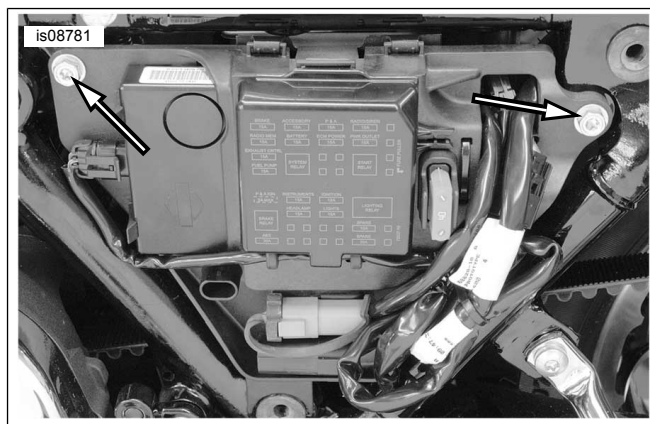
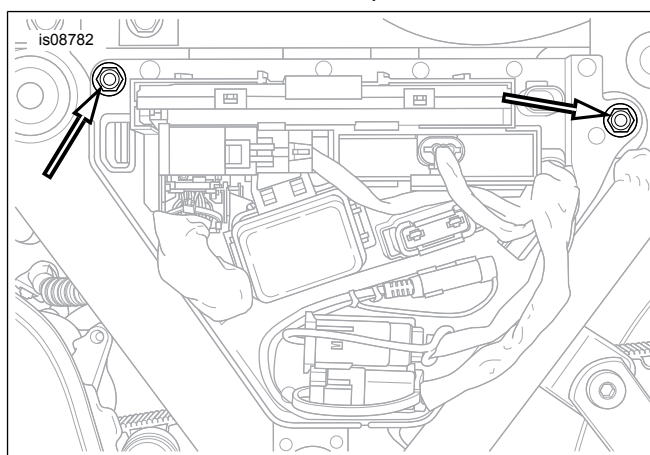

Figure 2. Remove Electrical Caddy Screws (2010-2013 FL Models)
Figure 3. Remove Electrical Caddy Screws (2014-Later FL Models)
15. **2010-2013 models:** See Figure 2. **2014-later models:** See Figure 3. **ALL models:** Remove the two screws securing the electrical caddy. Tip the caddy outward.